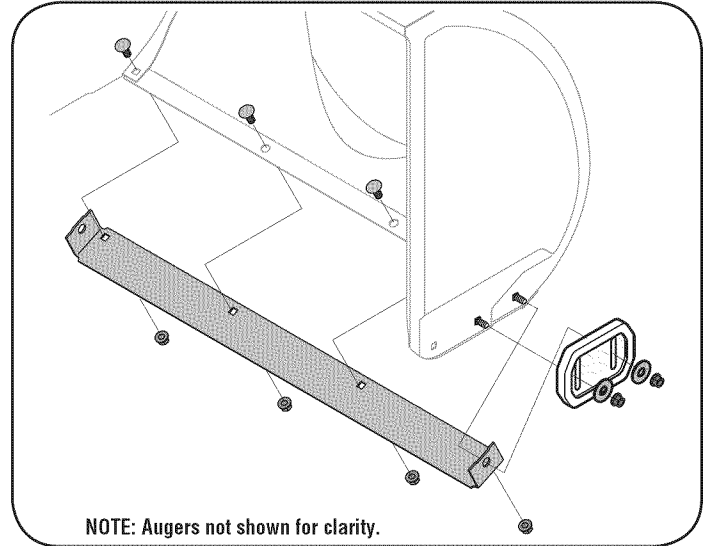

Figure 18
2. Reassemble new skid shoes with the four carriage bolts (two on each side) and hex flange nuts. Refer to Figure 18.
2. Reassemble new shave plate, making sure heads of carriage bolts are to the inside of housing. Tighten securely. Refer to Figure 18.